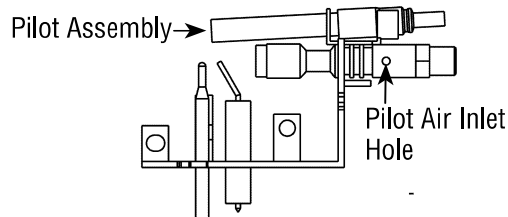

Figure 65 - Pilot Primary Inlet Air Hole (Natural Gas Pilot shown)
2. Inspect burner, pilot and primary air inlet holes on injector holder for dust and dirt (*see Figure 65*).
- Clean pilot assembly also. Additional cleaning may be needed for proper pilot operation based on use/lack of use. A yellow tip on the pilot flame may indicate dust and dirt in the pilot assembly. There is a small pilot air inlet hole about from where the pilot flame comes out of pilot assembly (*see Figure 65*). With unit off, lightly blow air through air inlet hole. You may blow through a drinking straw if compressed air is not available.